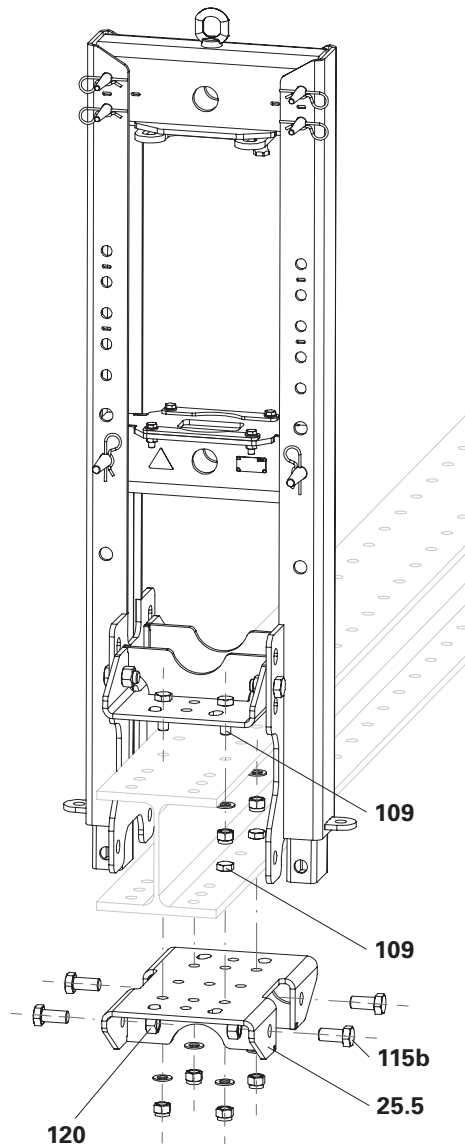

Fig. G2.03
6. Place the liftframe in the pallet and secure it to prevent it from slipping. (Fig. G2.03)